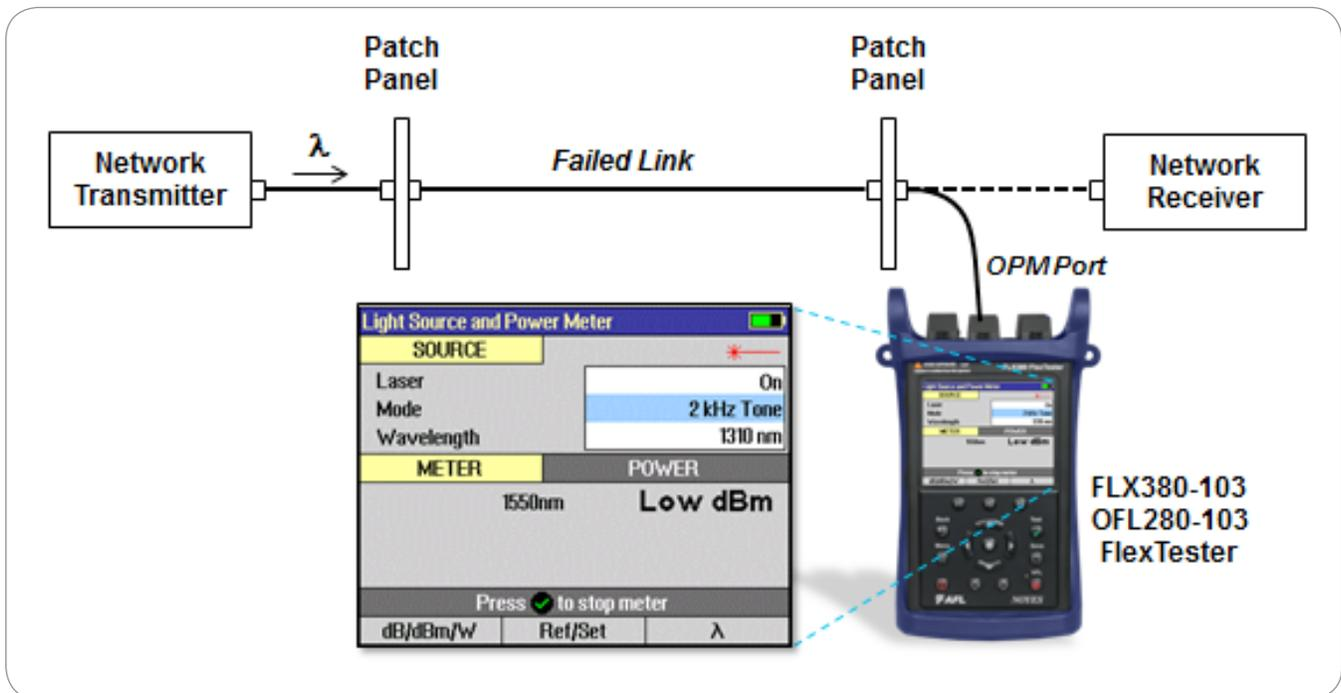

Figure 3: "Low" power level indicates fiber-under-test is dark.
3. If the received level reads "Low," as shown in Figure 3, no measurable power is being detected at any wavelength. The fiber is not carrying a live signal, and the fiber may be tested at 1310, 1550, or 1625 nm using either the Full Auto or Expert OTDR modes.